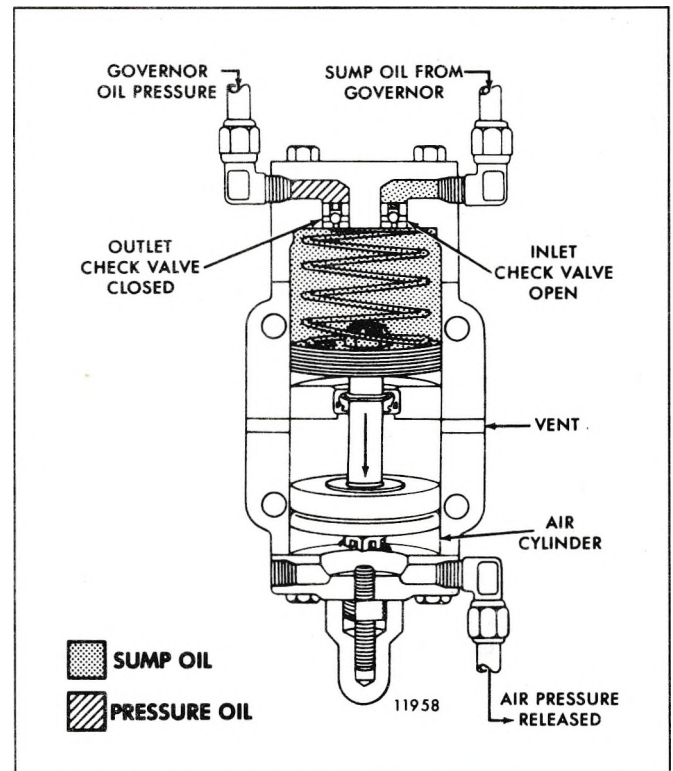

Fig. 14 - Oil Pressure Outlet Check Valve in Closed Position
8. Spring force returns the piston to its original position. Refer to the direction arrows in Fig. 14.